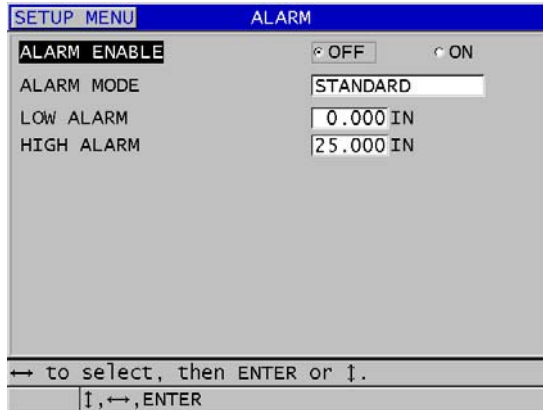

Figure 8-7 Setting up the STANDARD alarm
3. In the **ALARM** screen (see Figure 8-7 on page 123):